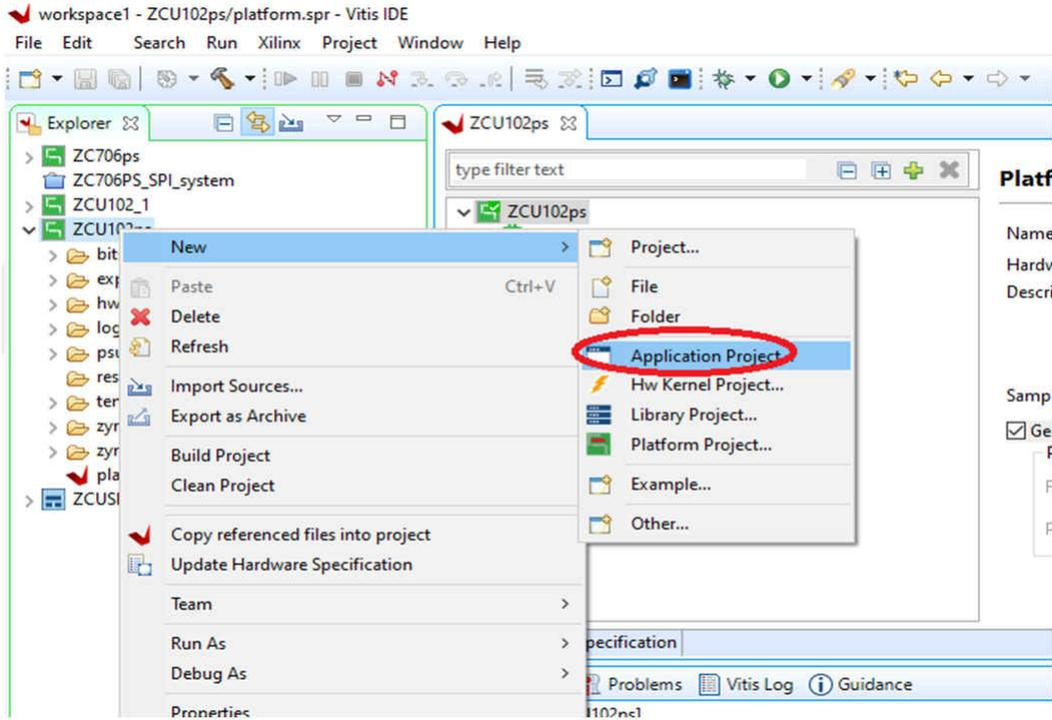

Figure 9-1. Creating New Application Project
1. Right-click the *Platform* project, go to *New*, then click *Application Project* (see Figure 9-1).